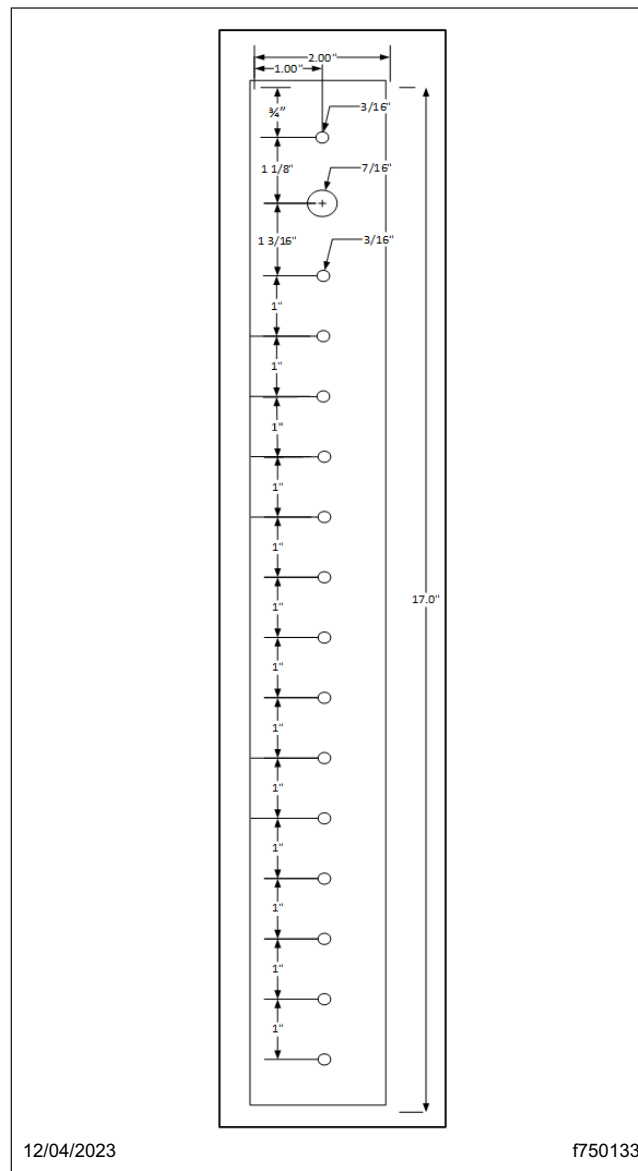

Fig. 5, Fastener Template
- 5.3 For the third and subsequent fasteners, continue to measure 1 inch downward from the second fastener for a total of 13 fasteners as shown in **Fig. 5**.